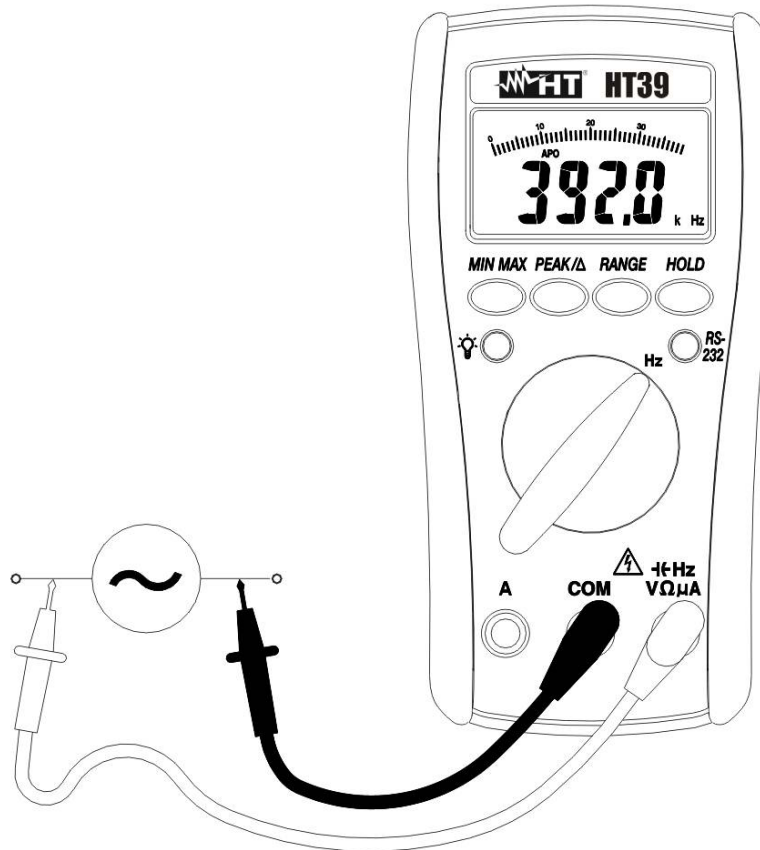

Fig. 7: Frequency measurement
2. Insert the test leads into the jacks, the red plug into \rightarrow **HzVΩμA** jack and the black plug into **COM** jack (Fig. 7).